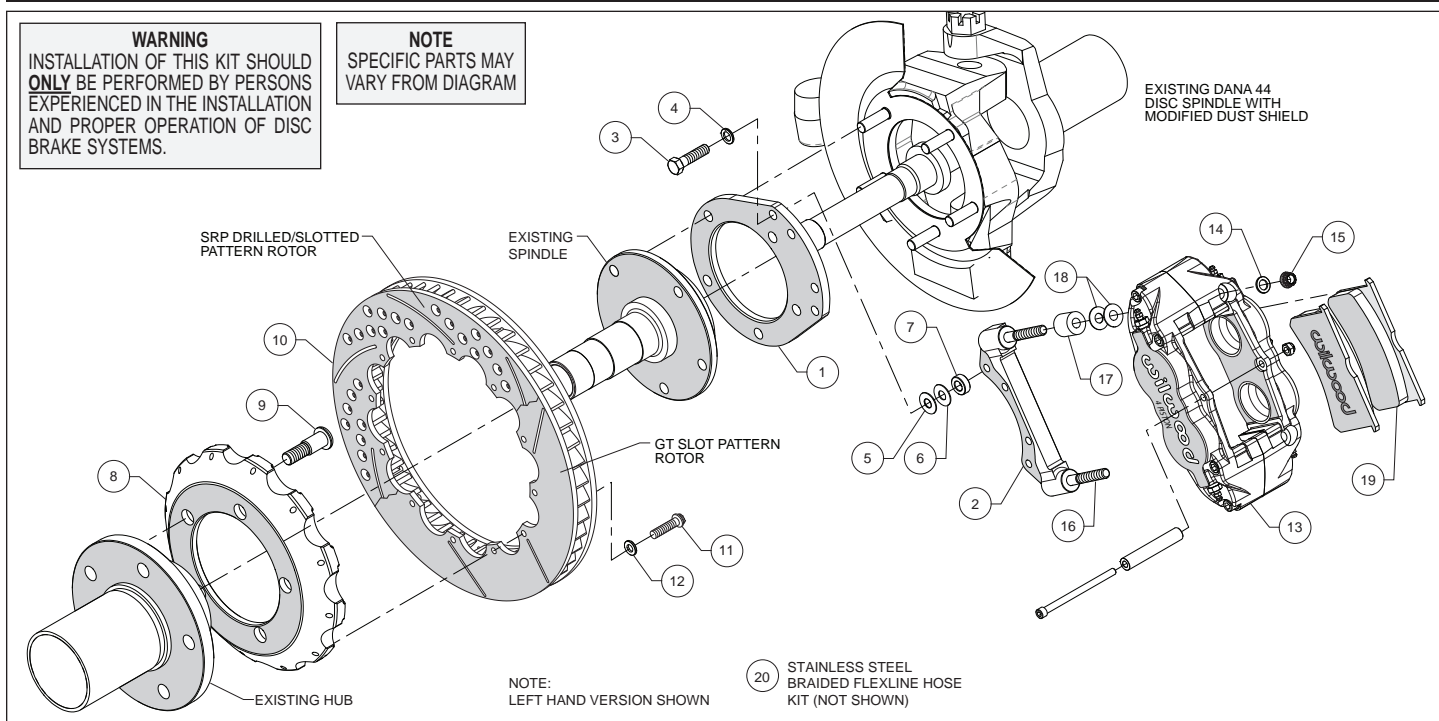
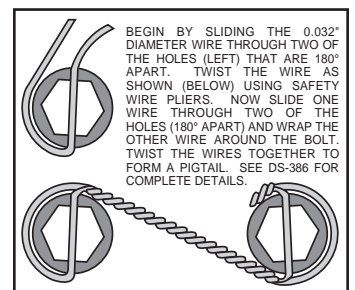

Figure 1. Typical Installation Configuration
Figure 4. Safety Wire Diagram
Assembly Instructions (numbers in parenthesis refer to the parts list and Figure 1 on the preceding pages):
- Orient the flat mount bracket (1) as shown in Figure 1 and Photo 1. Install the OEM spindle over the bracket and secure with OEM nuts, Photo 2. Temporarily tighten the mounting nuts. **NOTE:** *The bracket must fit squarely against the mount bosses on the upright.* Inspect for interference from casting irregularities, machining ridges, burrs, etc. Remove nuts one at a time, apply red *Loctite*[®] 271 to the bolt threads and torque nuts to OEM specification.
- The caliper mount bracket (2) should initially be installed with clean, dry threads on the mounting bolts. Orient the bracket as shown in Figure 1 and Photo 3, and install using mount bolts (3) and washers (4). Initially place one .035" thick shim (5) and spacer (7) on each bolt between the flat and caliper brackets, Figure 1. Temporarily tighten the mounting bolts. Later, after the caliper alignment has been checked, the mount bolts will be secured using red *Loctite*[®] 271.
- Orient the hat (8) and the OEM hub as shown in Figure 1 and Photo 4. **NOTE:** *The hat must fit flush against the hub or excessive rotor run out may result.* Press fit the wheel studs (9) thru the holes in the hat and into the existing hub. **NOTE:** *We recommend this procedure be performed by a qualified machinist.*
- Orient the rotor (10) and the hat/hub assembly as shown in Figure 1 and Photo 5. Attach rotor to hat using bolts (11) and washers (12). Using an alternating sequence, apply red *Loctite*[®] 271 to the threads, and torque to 155 **in-lbs**. For an added measure of security, the bolts may be safety wired using standard 0.032 inch diameter stainless steel safety wire as shown in Figure 4. Please refer to Wilwood's data sheet DS-386 (available at www.wilwood.com/Pdf/DataSheets/ds386.pdf) for complete safety wire installation instructions.
- Lubricate the caliper mounting studs (16) with lightweight oil. Initially place two .035" thick shims (18) and spacer (17) on each stud as shown in Figure 1 and Photo 6. Mount the caliper (13) onto the bracket (2) using lock nuts (15) and washers (14), Figure 1. Temporarily tighten the lock nuts and view the rotor through the top opening of the caliper. The rotor should be centered in the caliper, Photo 7. If not, adjust by adding or subtracting shims (5 and/or 6) between the spindle basket and caliper bracket. Always use the same amount of shims on each of the four mounting bolts. Once the caliper alignment is correct, remove the bracket to bracket mounting bolts (3) one at a time, apply red *Loctite*® 271 to the threads, and torque to 35 ft-lb.